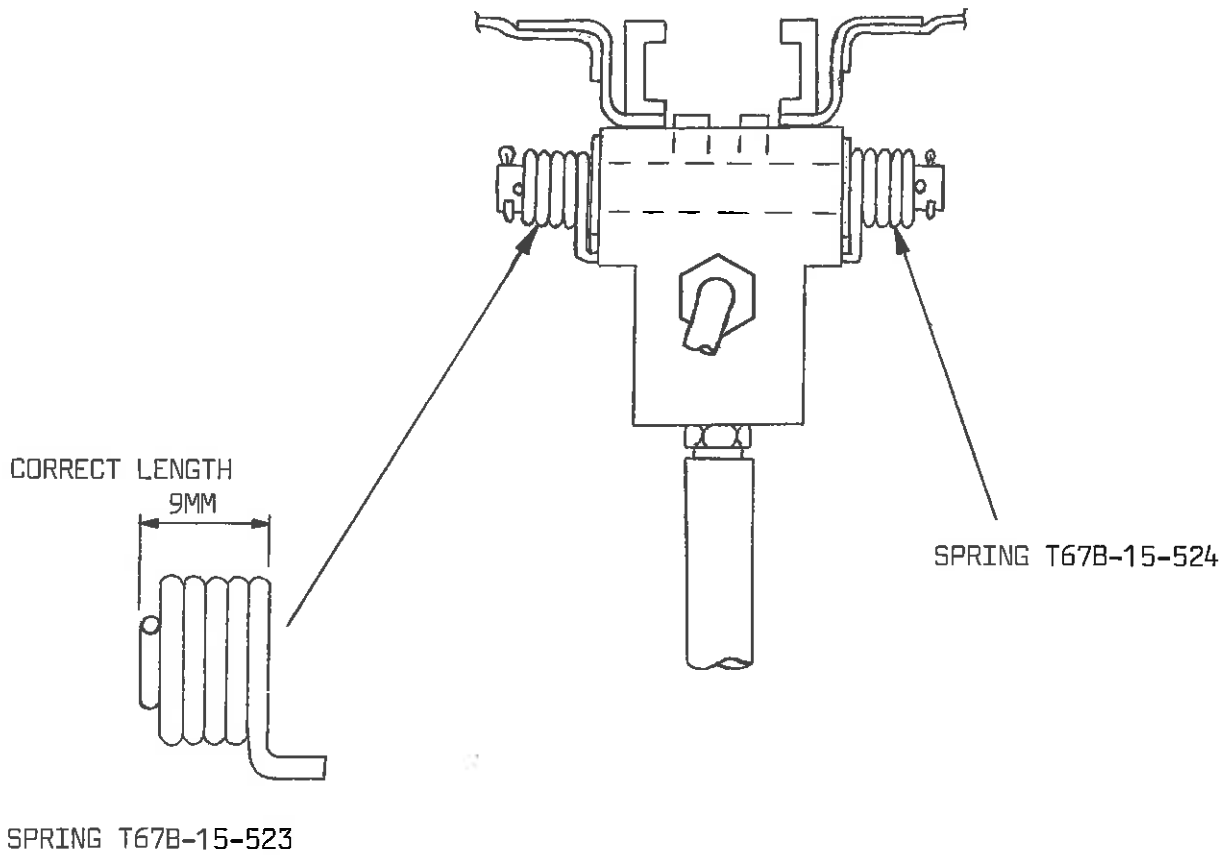

FIG 1 CANOPY SLIDE LOCK MECHANISM
4. Measure the dimension shown in Fig. 1 for the two springs.